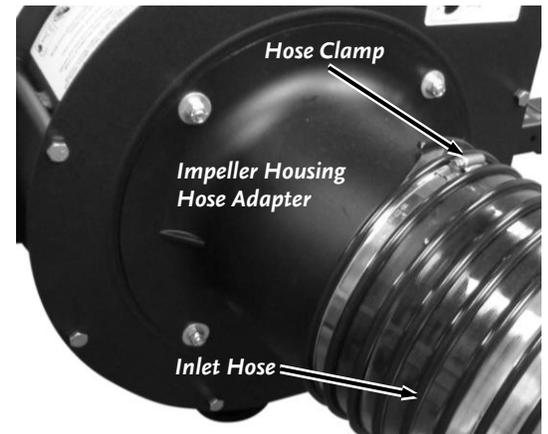

Figure 75
3. Disconnect the Hose from the Impeller Housing using a Flat Head Screwdriver or 7mm Wrench (**Figure 75**).